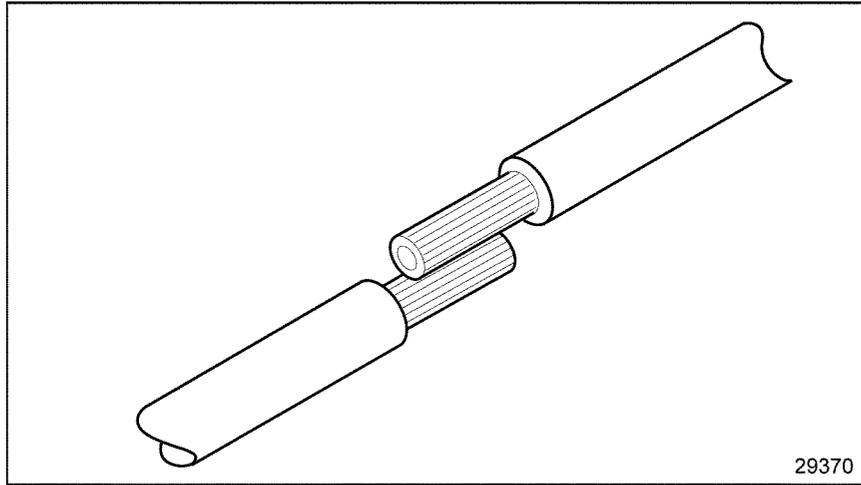

Figure 3-19 Positioning the Leads
1. Position the leads, so one overlaps the other. See Figure 3-19.